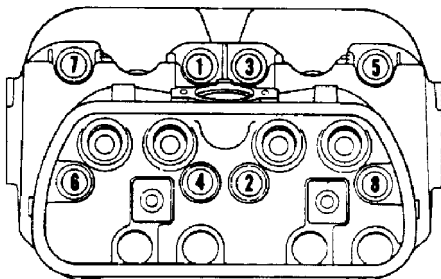

Fig. 4: Cylinder Head Nuts Tightening Sequence
3) Remove 8 cap nuts holding cylinder head to block. Gradually loosen nuts in reverse order of tightening sequence. See Fig. 4. Remove cylinder head and gasket. Remove push rod tubes. Remove metal sealing ring and thin Green "O" ring from cylinder sleeve.
3) Coat sealing face of cap nuts with waterproof sealant. Install and snug cap nut at No. 1 stud to hold cylinder head in place. Install remaining cap nuts. Tighten cap nuts (in sequence) to 84 INCH lbs. (10 N.m). See Fig. 4. Make sure push rod tubes are correctly seated.